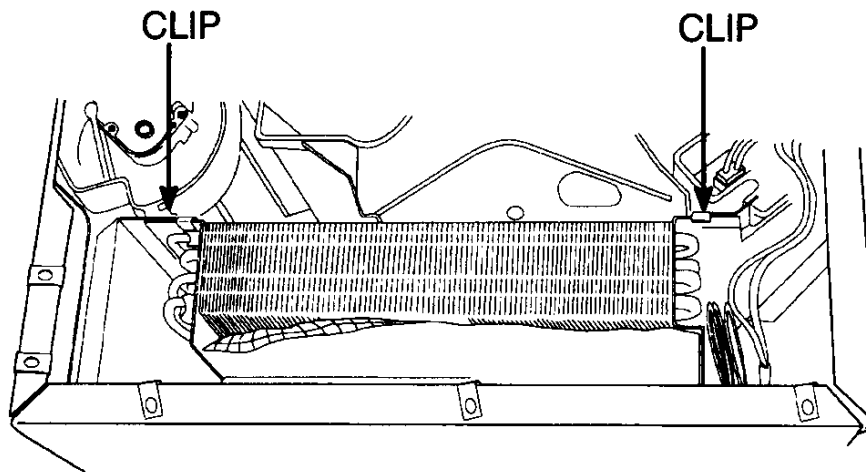
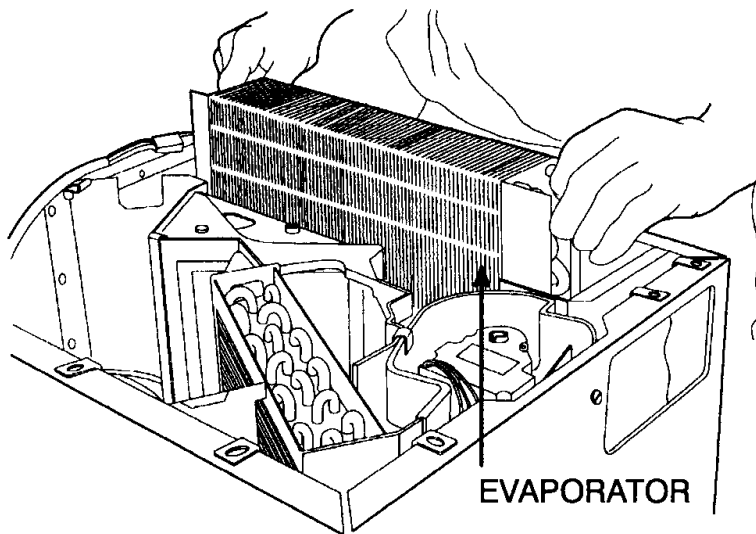

Figure 35 Evaporator Clips
Figure 36 Evaporator Remove/Install
7. Remove the two clips that secure the evaporator in the blend-air unit (Figure 35) and pull the evaporator up out of the unit (Figure 36).
1. Install the evaporator in the Blend-Air unit (Figure 36).
2. Install the two clips that secure the evaporator in the blend-air unit (Figure 35).